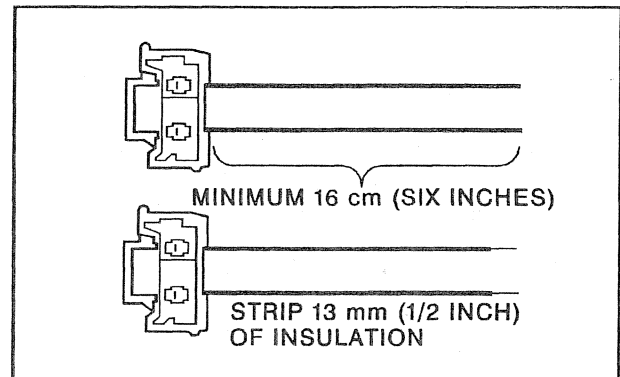

Figure 22—Cutting the Harness Connector Wires
Figures 22 through 26
4. Cut the inflator module yellow 2-way harness connector from the vehicle leaving at least 16 cm (six inches) of wire at the connector (Figure 22).
5. Strip 13 mm (1/2 inch) of insulation from each wire lead of the connector (Figure 22).